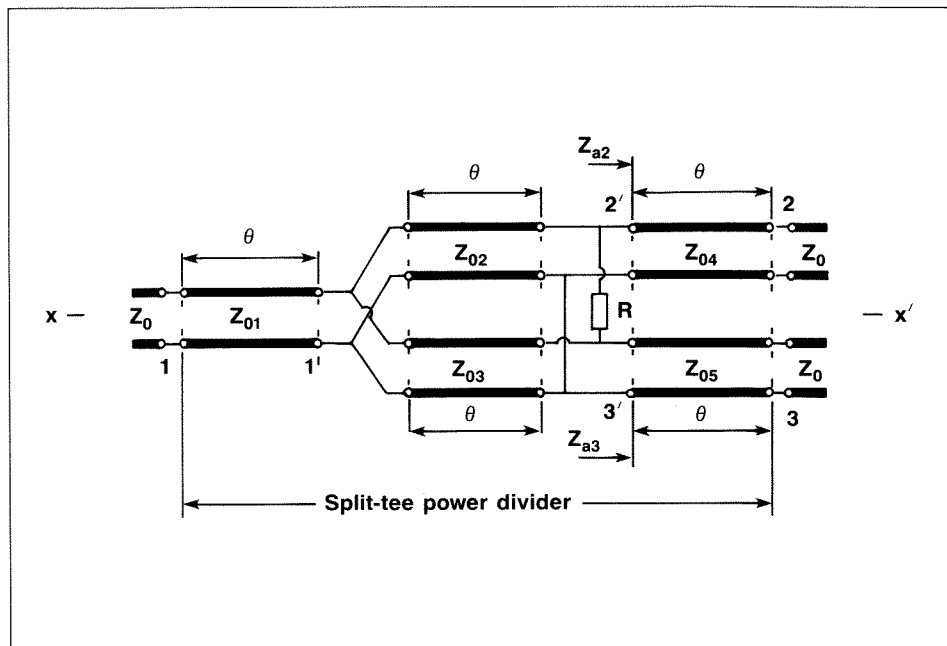

Figure 1. Electrical scheme of the improved unequal split-tee power divider.
Figure 1 presents the electrical scheme of the improved split-tee power divider described by Parad and Moynihan in their classical paper (1). Dividers (combiners) of this type are used for various applications, especially at RF and microwave frequencies. Hence, it is necessary to analyze their frequency properties.
In the general case, the divider shown in Figure 1 is asymmetric with respect to the horizontal plane $x - x'$, and for this reason its analysis cannot be done by using the even- and odd- mode excitation method (2,3,4). In addition, the analysis technique suggested in (1) is not suitable for this purpose since the auxiliary terminating impedances Z_{a2} and Z_{a3} (see Figure 1) are complex and dependent upon frequency. Therefore, in the present contribution a new numerical algorithm is presented which allows us to analyze the divider under consideration without difficulty. An example of this algorithm is presented below.